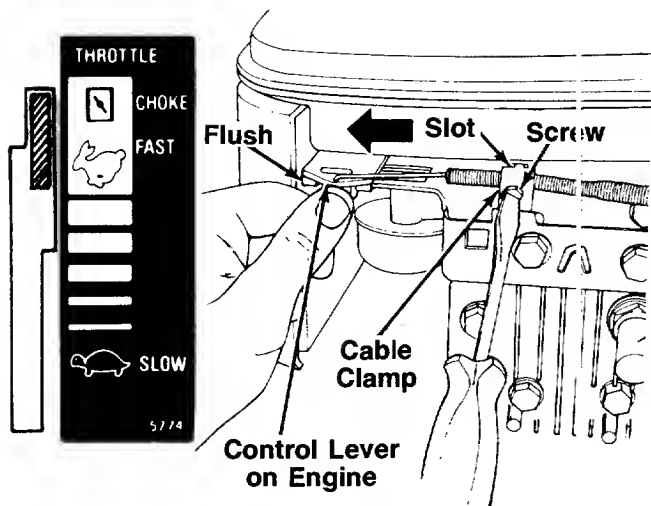

FIGURE 6A.—Models 109R, 116R and 119R
1. Push the throttle control lever on the handle all the way forward to CHOKE position. See figure 6A.
2. The throttle control cable is attached to the upper handle. Route the throttle control cable under the lower handle and to the outside of the handle mounting bracket and height adjustment lever (Model 176R only). Hook the "Z" end of the throttle control cable into the hole in the control lever on the engine. See figure 6A.
3. Using a 5/16" wrench or nutdriver, remove the screw on the cable clamp shown in figure 6A. Slip the control cable under the clamp. Replace the screw (cable should be above the screw), but do not tighten screw (cable must still move freely beneath the clamp). Make certain the tab on the cable clamp is seated into the slot on the engine.
4. Push the control lever on the engine as far toward the **outside** of the engine as it will go. The edge of the control lever should be flush with the bracket on the engine. See figure 6A. Hold the control lever in this position as you tighten the screw on the cable clamp to secure the throttle cable.